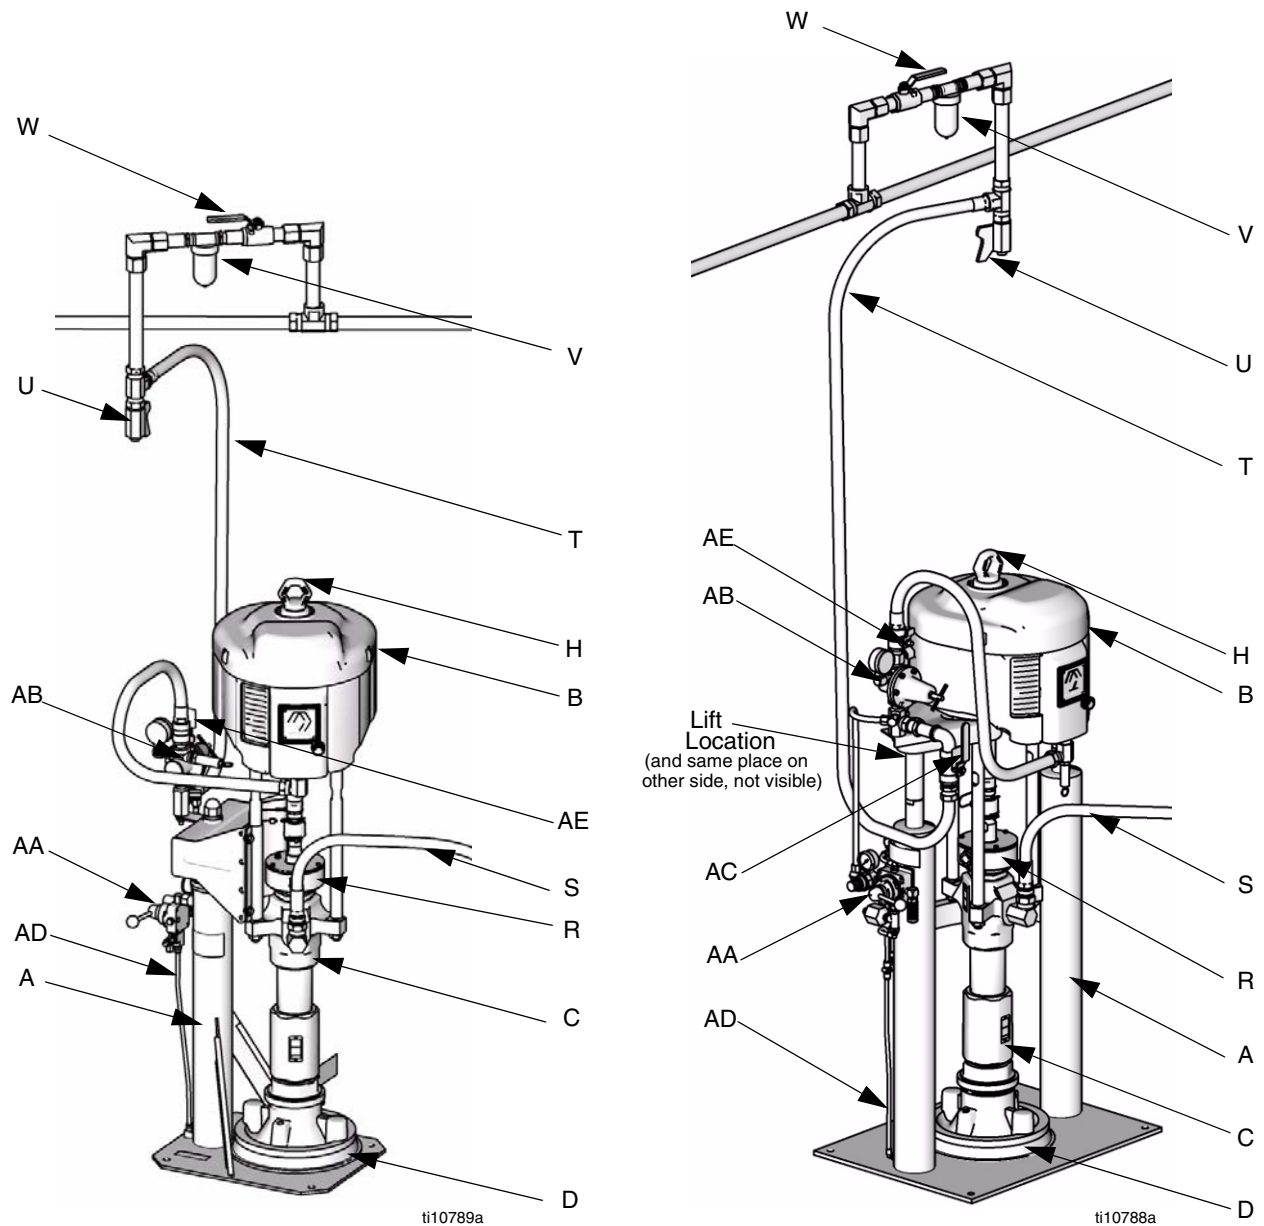
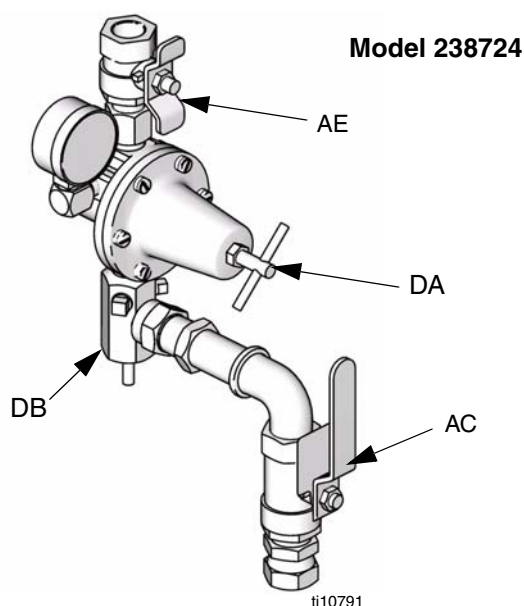
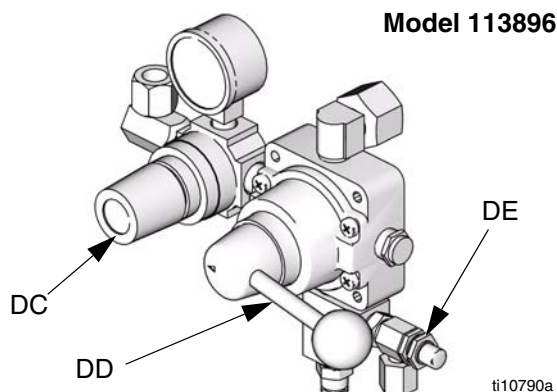

FIG. 5
FIG. 6. Air Regulator Assembly
FIG. 7. Ram Air Control Assembly
Refer to FIG. 5, FIG. 6, and FIG. 7.
See FIG. 5.
- Standard Air Controls:** See FIG. 5 and FIG. 6. Close the air motor valve (AE) and the main air valve (AC).
8. Open the fluid line drain valve and the pump bleeder valve (P). Have a container ready to catch the drainage.
9. Leave the pump bleeder valve (P) open until ready to spray again.